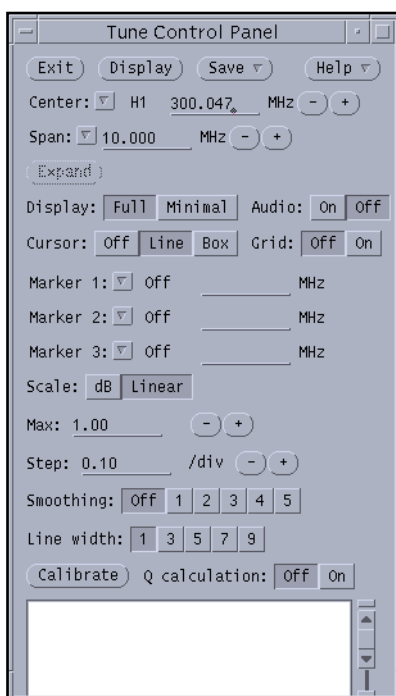
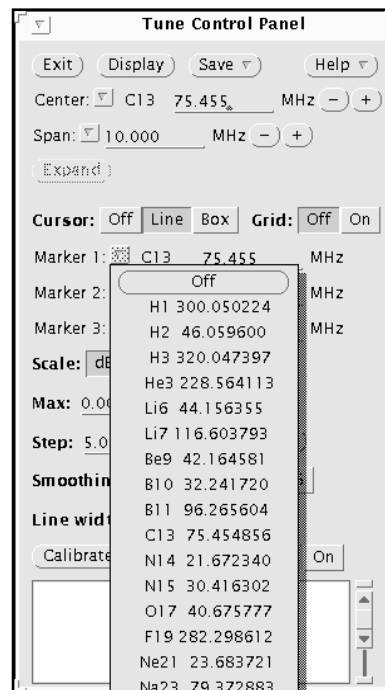

Figure 25. Tune Control Panel
Figure 29. Pull-Down Menu for Marker 1
- a. In the Tune Control Panel (see Figure 25), click on the triangle next to one of the markers to open a pull-down menu (Figure 29 shows the Marker 1 menu). For more detail on using markers, see the “To Use Cursors, Grid, and Markers,” page 120.
Markers – In the **Marker 1**, **Marker 2**, and **Marker 3** fields, the Tune Control Panel provides three markers for marking fixed frequencies. Each marker has a pull-down menu (see Figure 29) that lists the same nuclear frequencies and the Center pull-down menu. Each marker also has an entry field for entering a frequency.